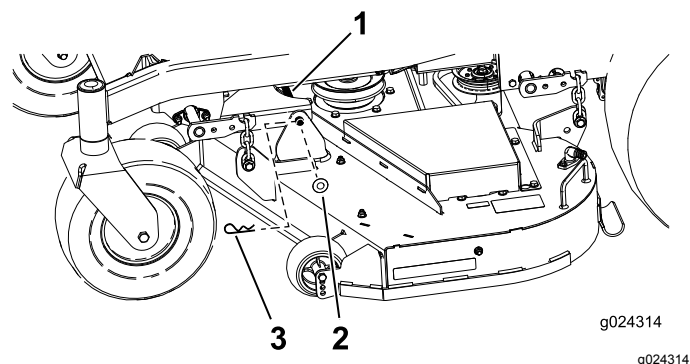

Figure 65
1. Remove the hairpin cotter and washer securing the link pin to the frame and deck, and remove the link bar (Figure 65).
9. Secure the link pin with the hairpin cotters and washers removed previously (Figure 65).